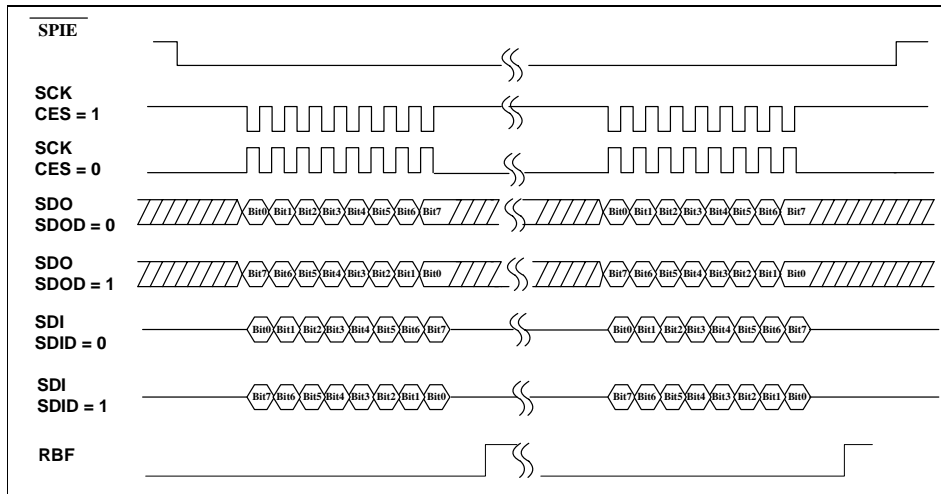

Fig. 9-2 SPI Transceiver Timing
The following subsections describe the function of each blocks and signals. Fig. 9.2 depicts how the SPI communication is carried out.
- Timing is shown in Fig. 9-2.
- Timing is shown in Fig. 9-2